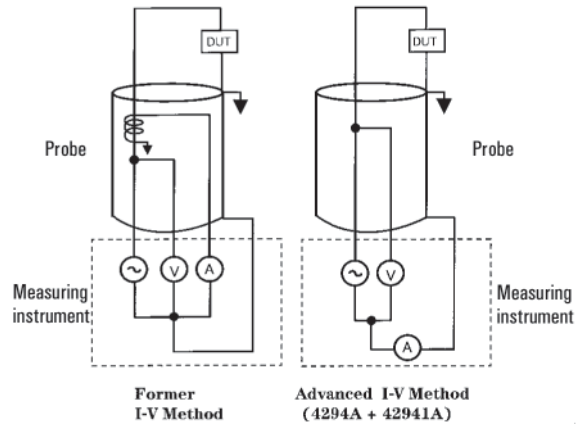

Figure 10. Circuit diagrams of the 42941A impedance probe and the previous 41941A impedance probe
2. The frequency range was limited by the transformer’s operational frequency range. With the 42941A impedance probe, a new technology called the “Advanced I-V Method” was introduced. Figure 10 shows a comparison of the circuit diagrams used in these methods.